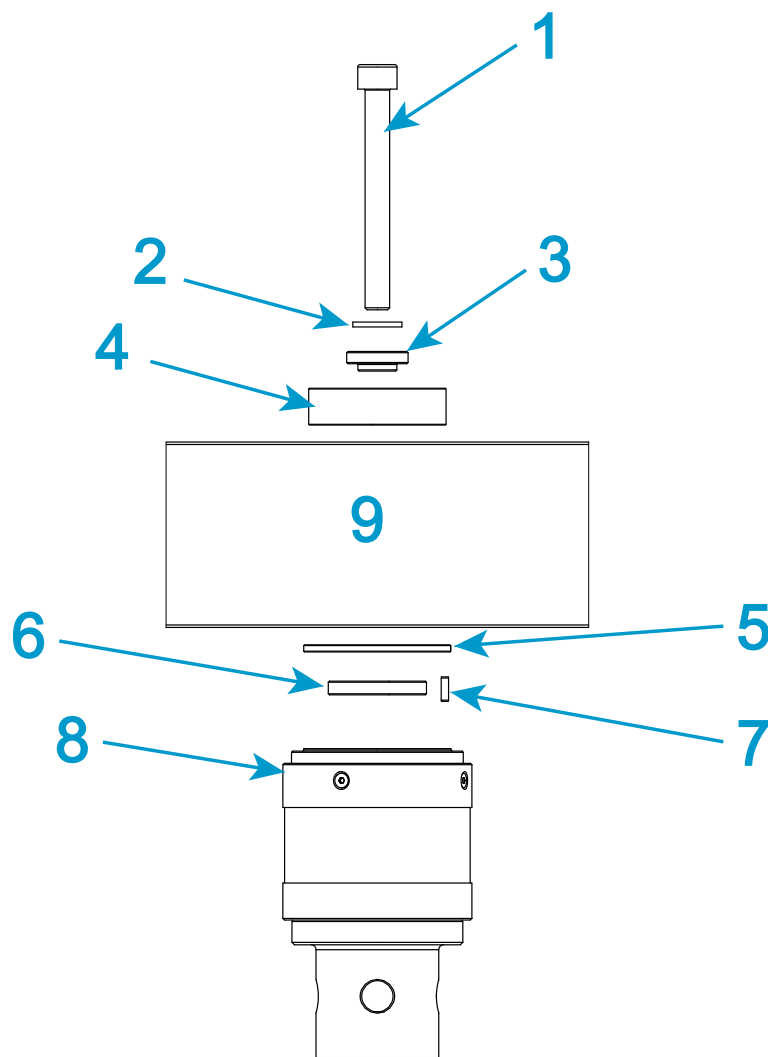

Figure 24. Install a 2580 series load cell - capacities 500 N through 5 kN
Legend for Figure 24
1. Refer to Figure 24 and its associated table and collect together the correct mounting hardware.
2. Assemble the hardware shown above the crosshead in Figure 24 and place it into the top of the central bore of the crosshead.